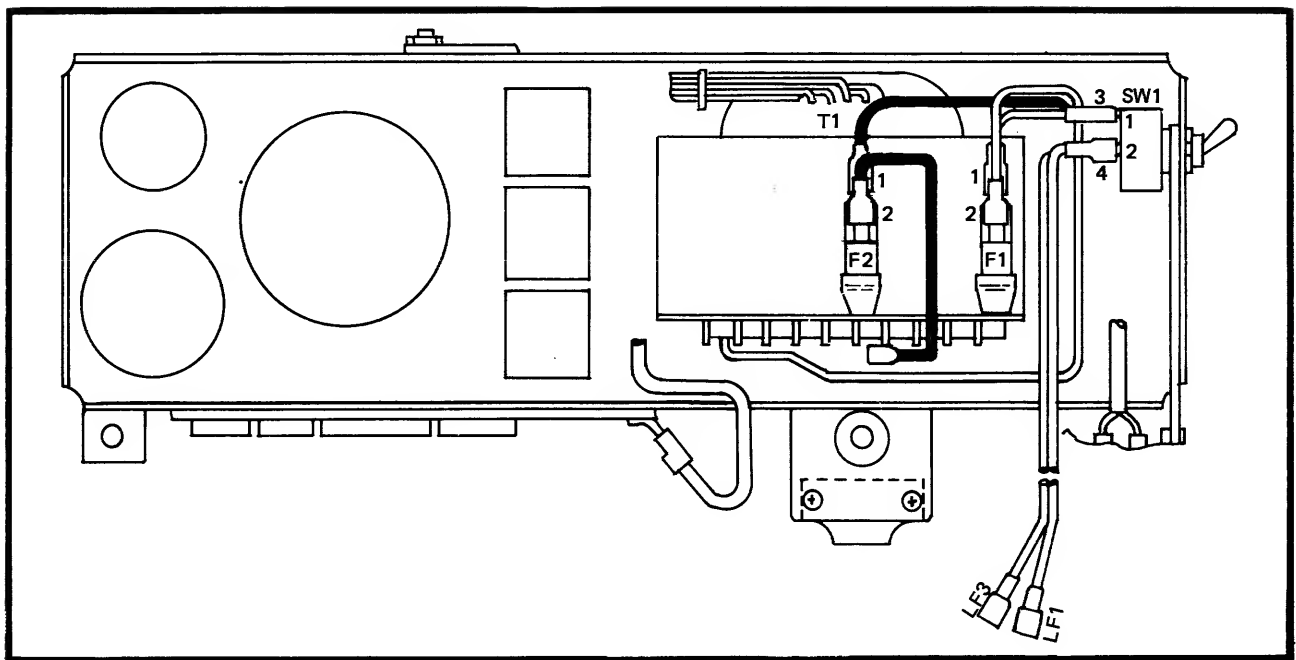

Figure 22. Wiring for 200V/220V/240V
Figure 22 shows the arrangement of taps for line voltages of 200V, 220V, and 240V. Rewire using Power Kit P/N 102421.
a. Remove wire from power switch terminal SW1-3 (figure 22) and from transformer tap at other end of that wire. Remove wire from the Printer.